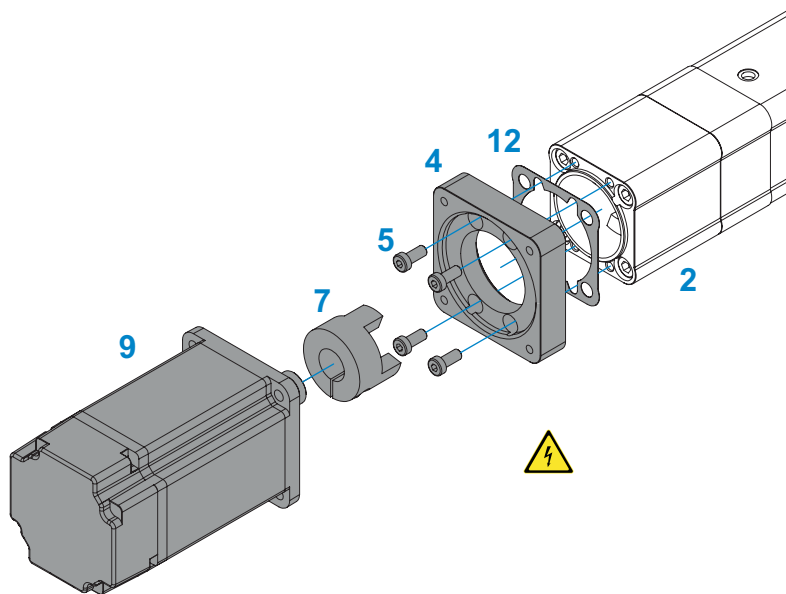

Figure 18: Step 4 and 5.
STEP 5: Place the coupling hub **2 7** on the motor journal. Ensure that the coupling hub **2 7** and the motor journal are correctly aligned, see Figure 18.